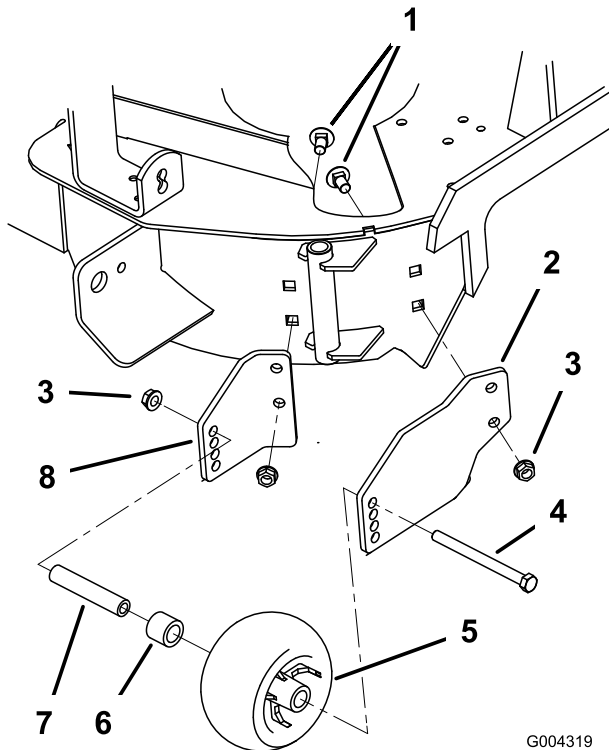

Figure 1
1. Loosely install the inside bracket to the mower deck with 2 carriage bolts (3/8 x 3/4 inch) and 2 nuts (3/8 inch) as shown in Figure 1.
2. Loosely install the outside bracket to the mower deck with 2 carriage bolts (3/8 x 3/4 inch) and 2 nuts (3/8 inch) as shown in Figure 1.
3. Install the anti-scalp roller, spacer, and bushing between the two mounting brackets with a bolt (3/8 x 4-1/2 inches) and nut (3/8 inch)(Figure 1).
4. Tighten the bolts holding the mounting brackets to the mower deck (Figure 1).